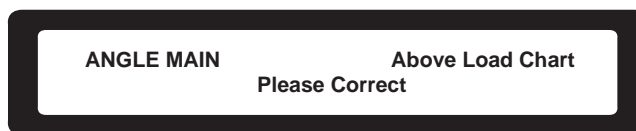

Figure 29. Maximum Boom Angle Alarm Screen
- 1) The maximum boom angle alarm screen (figure 29) will appear on the LCD display (figure 17, item 1).
- 3) After approximately 10 seconds, the LCD display (figure 17, item 1) will alternate between the maximum boom angle alarm screen (figure 29) and the primary operating display screen (figure 25).